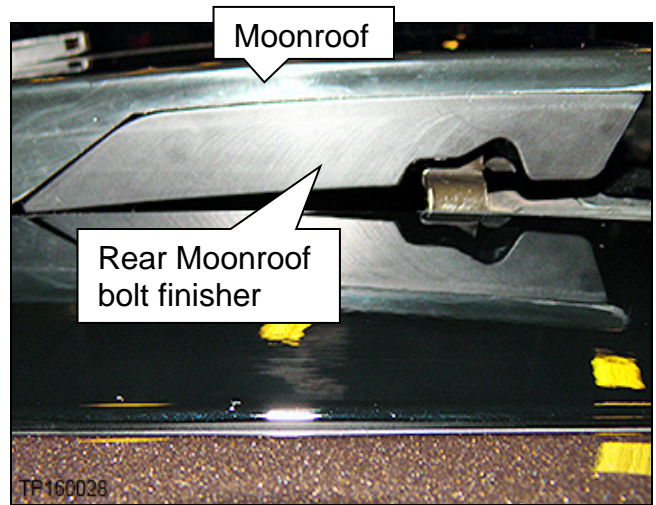

Figure 40
7. Remove left rear and/or right rear Moonroof bolt finishers (Figure 40).